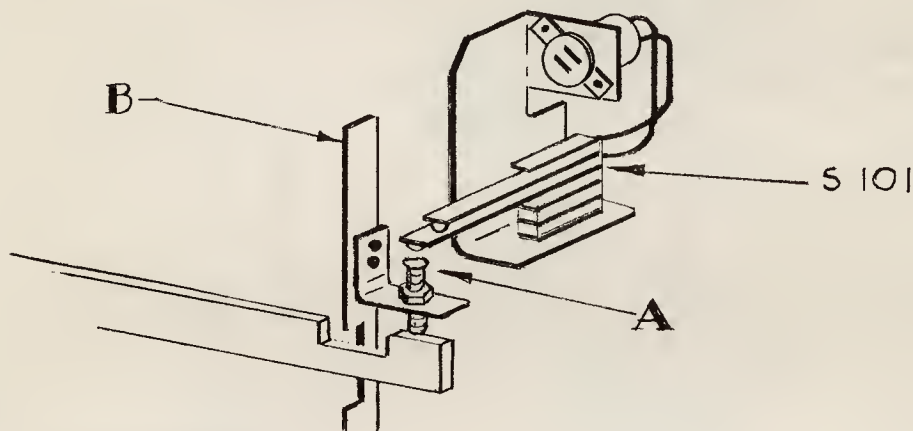

FIG. 13
(R) Spaceband Reed Switch S-101 (Fig. 13)